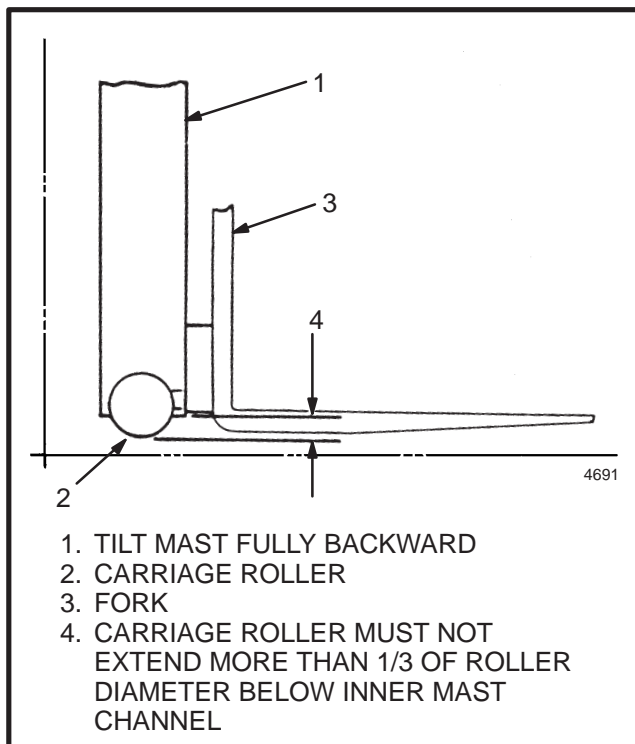

FIGURE 38. LIFT CHAIN ADJUSTMENTS
3. When the chain adjustments are complete, make sure that the threads on the nuts of the chain anchors are completely engaged. Make sure that all of the adjustment is not removed from the chain anchors. The chain anchors must be able to move in their sockets. See FIGURE 38. Lower the mast completely and put a capacity load on the forks. Tilt the mast fully backward and check the amount that the bottom carriage load roller extends below the inner channel. When adjustments are correct, no more than one-third of the roller will be visible.